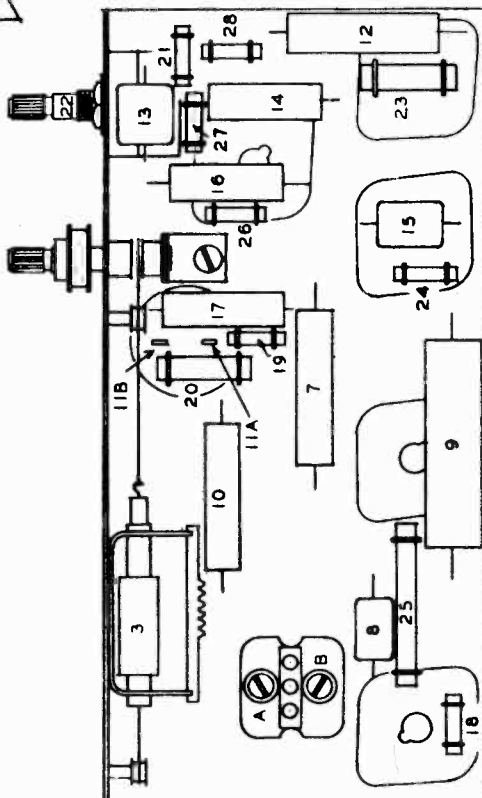

FIG. 5--PARTS LAYOUT--Bottom View
- (d) Adjust the oscillator trimmer (illus. B, Fig. 5) for maximum output.
- (f) Adjust the antenna trimmer (illus. A, Fig. 5) for maximum output.